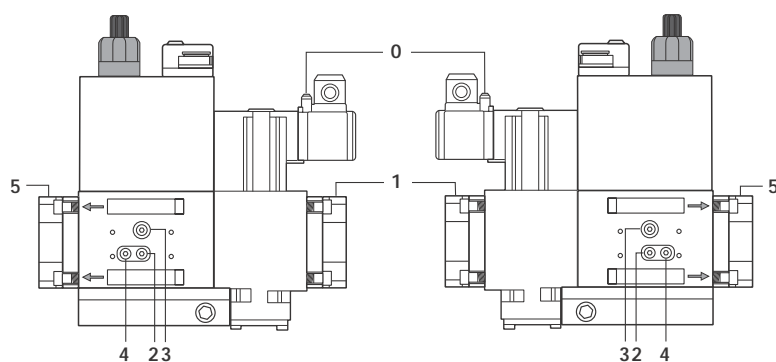
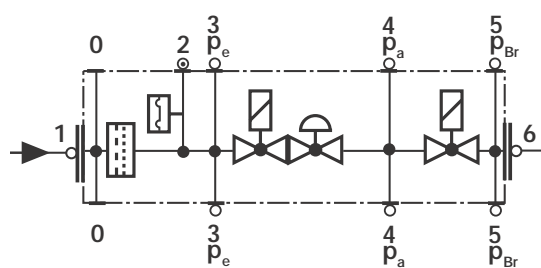

Fig. 30
Fig. 31
- Change the filter if the pressure difference between pressure connection 1 and 2 (Fig. 30-Fig. 31)  $\Delta p > 10$  mbar.
- Change the filter if the pressure difference between pressure connection 1 and 2 (Fig. 30-Fig. 31) is twice as high compared to the last check.